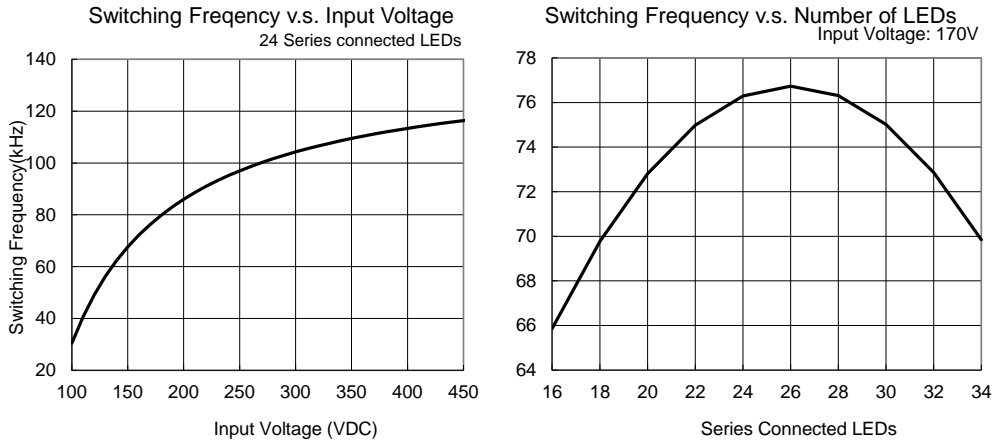

Figure 4. Examples of Switching Frequency Change by Input Voltage and Number of LEDs
Figure 4 shows examples of the frequency change when the input voltage and the number of LEDs connected in series (VF) are changed. In order to keep the frequency within desired switching frequency range, L1 and ΔIL1 need to be configured properly.